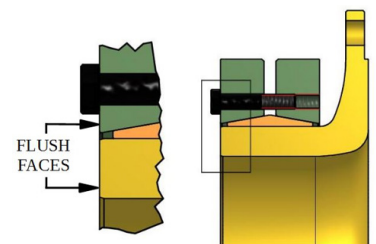

Fig. 5 Positioning of shrink disc
3. Insert Shrink Disc onto flange until outer faces of Shrink Disc and flange are flush (see figure 5), then make the coupling half assembly slide onto shaft by using suitable lifting equipment. **The shaft must support completely the toleranced section of flange's hub bore. Shaft end must not protrude from face of flange.** After confirming correct position of the coupling half assembly, hand-tighten 3 or 4 evenly spaced locking screws and make sure that outer collars of Shrink Disc are parallel.